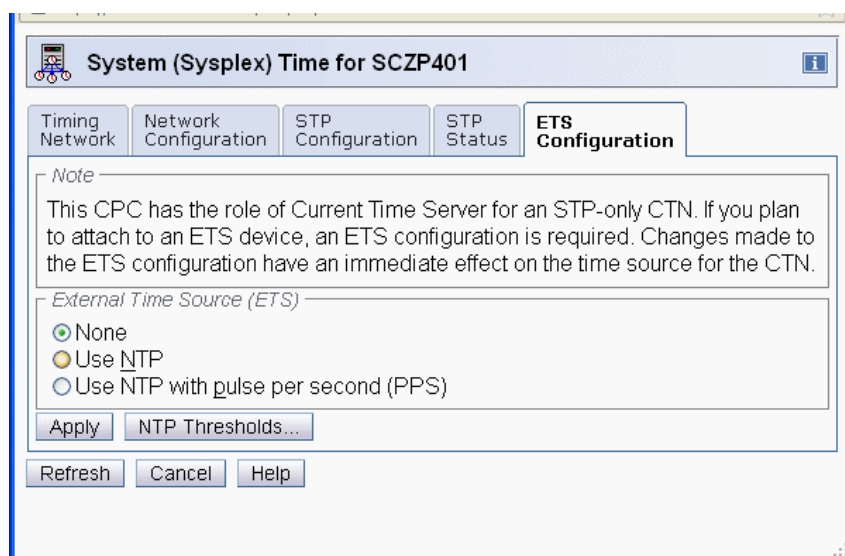

Figure 1-30 ETS Configuration: Use the NTP selection
1. Select the servers to be set up. Click the **System (Sysplex) Time** option in the Configuration section. Select the **ETS Configuration** tab (Figure 1-30).